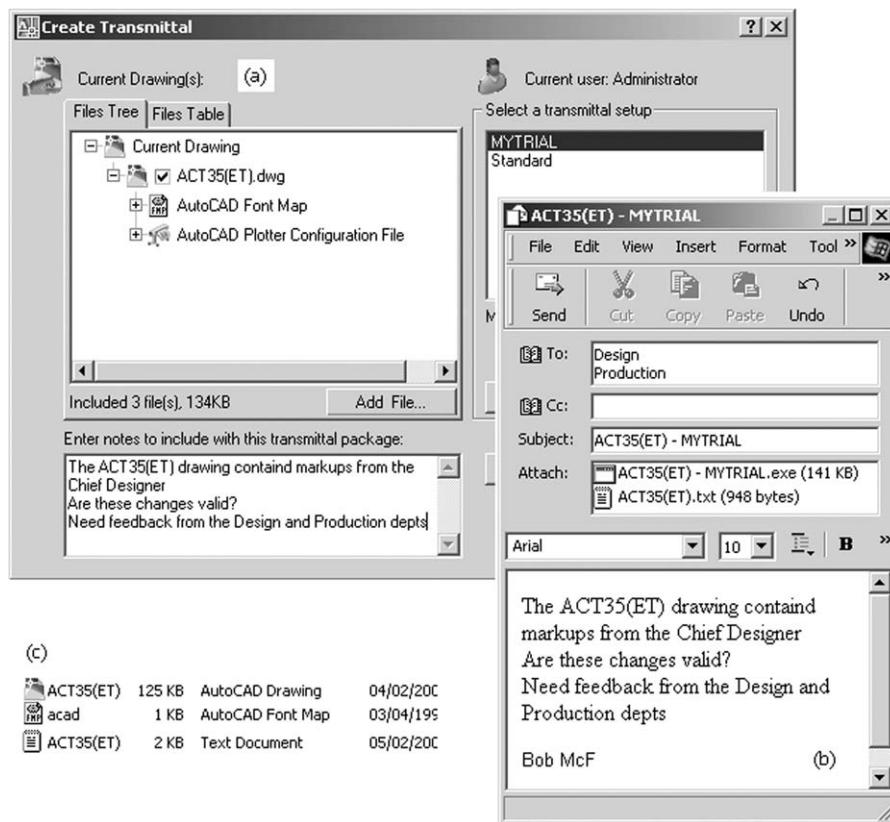

Figure 37.2 (a) The Create Transmittal dialogue box for ACT35(ET); (b) the e-mail message screen and (c) the C:\acad files after 'unpacking' an e-transmittal.
- a) add notes as required – Figure 37.2(a)
- a) enter as appropriate – Figure 37.2(b)
- the following files should be listed as Figure 37.2(c):
- double left-click on the **ACT35(ET) text file** and: